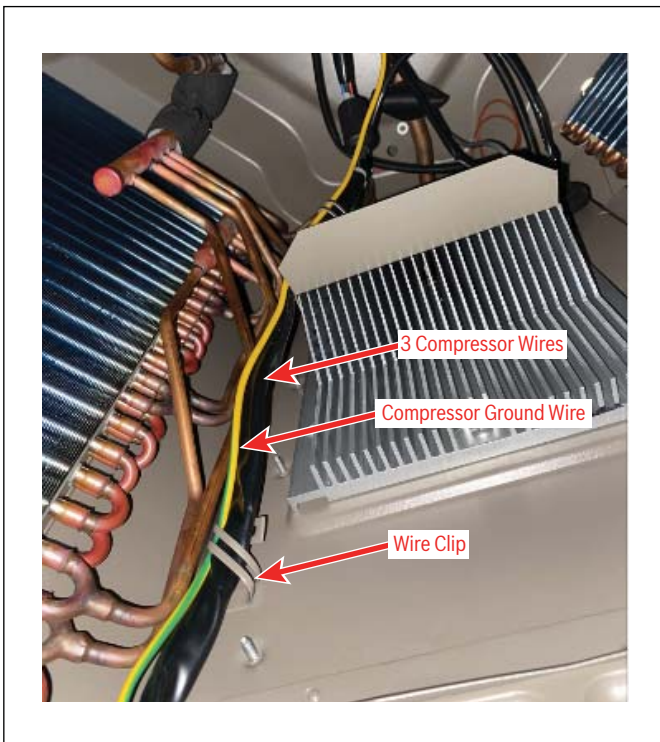

Figure 11 E-box High Voltage Routing
14. Route the compressor wires and compressor ground to the top of the E-box and secure using wire clip. Refer to Figure 11.